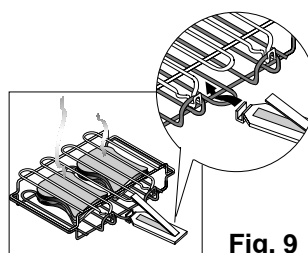

Fig. 9
- 2) Take hold of racks when handle is “open” as shown in fig. 9. At this point completely remove the racks from the oven by pulling outwards all the way.